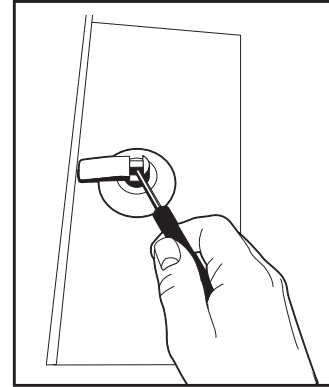

Figure 5
3. Insert the blade of a small screwdriver under the lip of the retaining wedge and pry the wedge out. See Figure 5